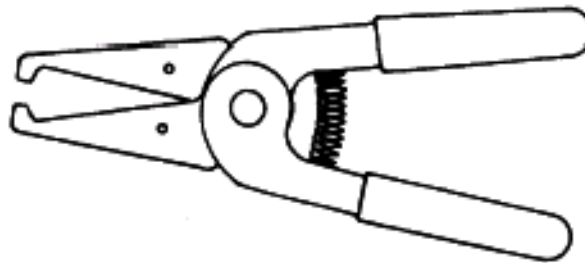

Figure 15. T-Cutter
20. **T-Cutter.** T-Cutter mold features hardened-steel, shear type blades that cut up to 1/2 inch fine stranded cable and AWG 10 solid wire. Its primary application is construction/maintenance production (Figure 15).